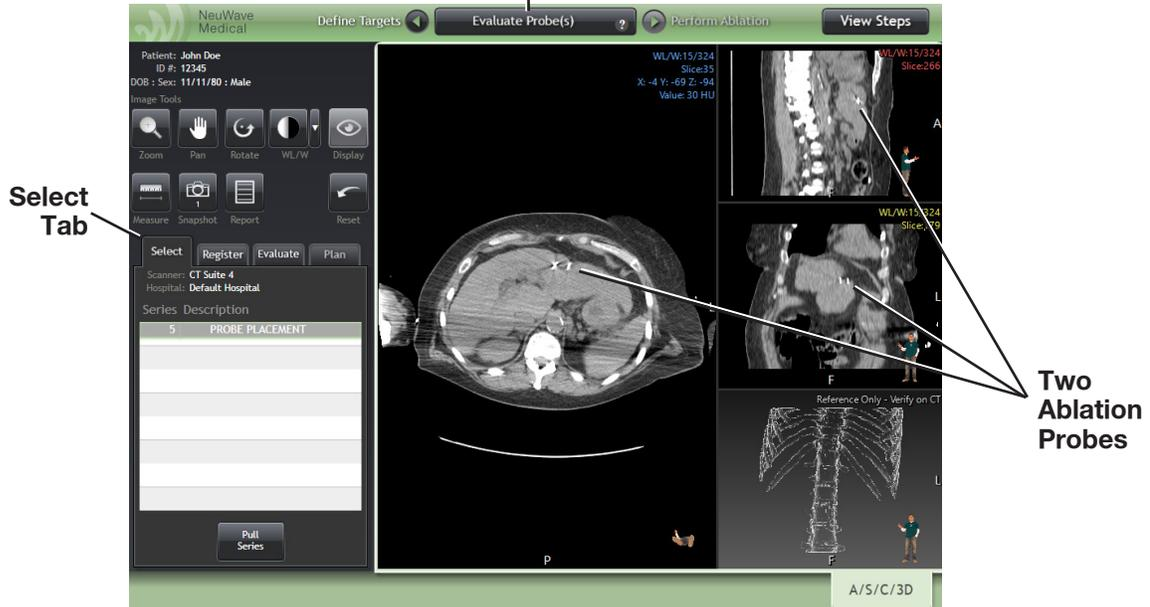

Figure 3-28: Locating the ablation probes. Full screen of the Evaluate Probe(s) Step under the Select Tab to verify probe's location.
4. View the image slices to ensure that the probes are placed correctly with respect to the target areas. Move the mouse wheel to scroll through the slices in the 2D and 3D Image Views and locate the targets and probes (Figure 3-28).